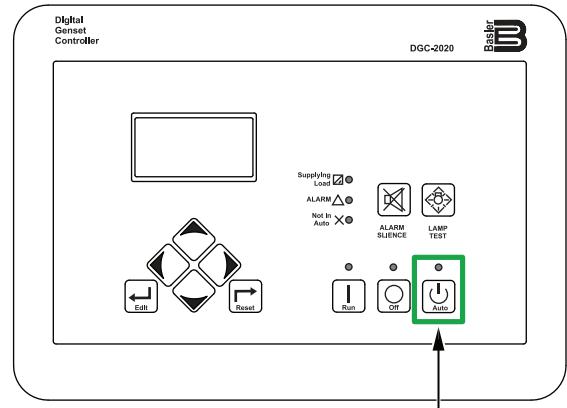

Figure 48. Digital Controller (Auto Button)
2. Press the **Auto button** (Figure 48) on the digital controller. When a start signal is received from the auto-start contacts, the engine will start automatically after the preheating process has completed.